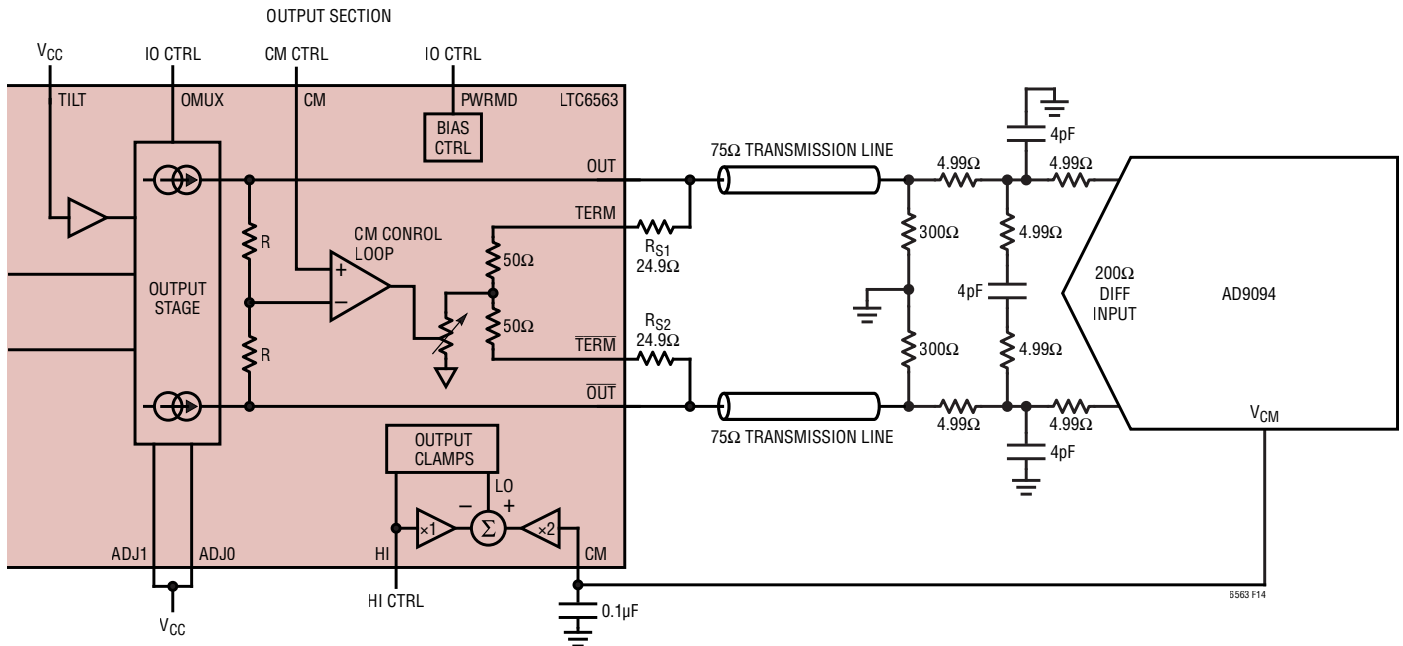

Figure 14. Reducing the Min CM Voltage with Grounding the External Load Midpoint
if ADJ 11 is to be used as shown in Figure 14 where the external loads (300Ω) mid-point is grounded.
With the modified schematic of Figure 14 the CM voltage is:
Table 7 shows the computed minimum CM voltage, TIA gain (RT), and ADC FS diff voltage swing for various ADJ settings applied to the Figure 14 configuration:
Here is a sample calculation of the values in Table 7, related to the Figure 14 schematic, for ADJ 00 as an illustration:
Table 7. CM Minimum Voltage and Other Operating Performance Values for Various ADJ Settings of Figure 14